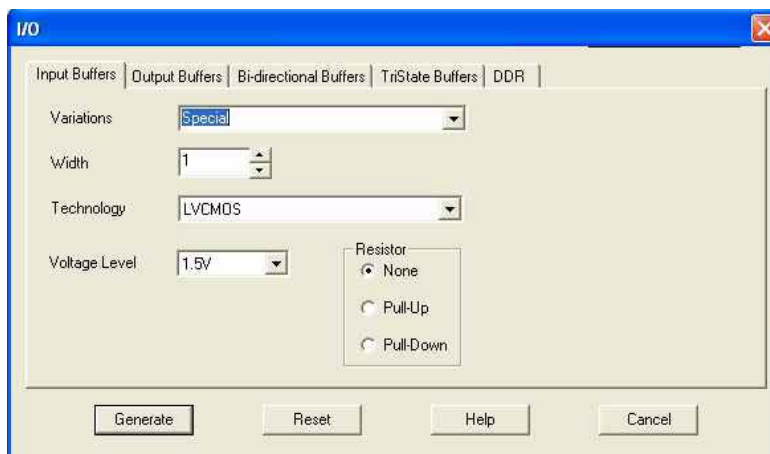

Figure 7 • I/O Configuration Window
5. Double-click any of the varieties. The I/O configuration window opens (Figure 7).
As seen in Figure 7, there are five tabs to configure the I/O macro: Input Buffers, Output Buffers, Bidirectional Buffers, Tristate Buffers, and DDR.
The **Special** variation has Width, Technology, Voltage Level, and Resistor Pull-Up/Down options (see Figure 7 on page 11). All the I/O standards and supply voltages (V_{CCI}) supported for the device family are available for selection.